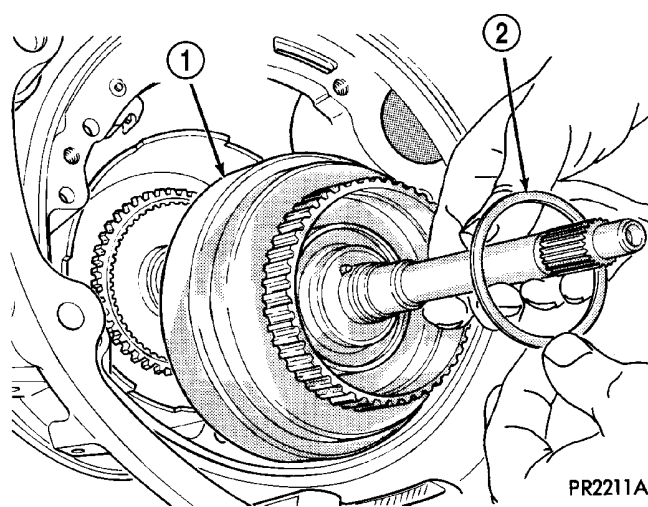

Fig. 32 No. 2 Thrust Washer and Rear Clutch
(32) Remove rear clutch assembly (Fig. 32). Inspect #2 thrust washer.